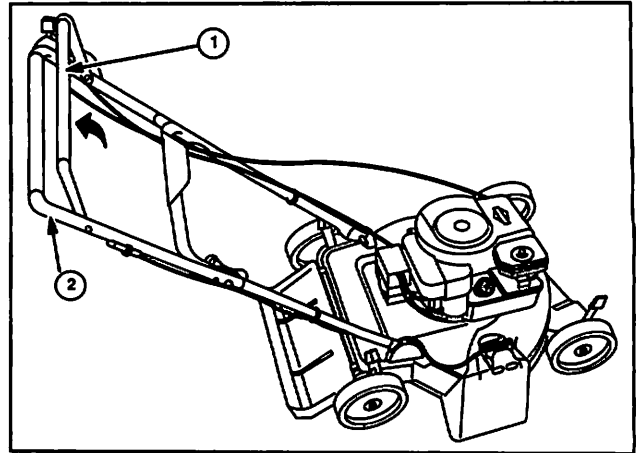
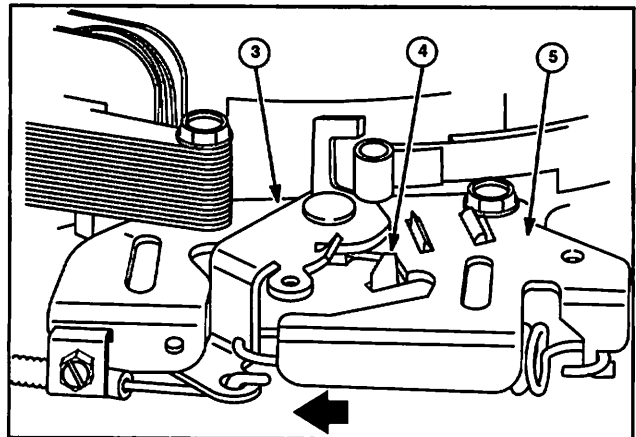

Fig. 23
Fig. 24
Move control lever away from stop switch using safety control (1) shown on handle (2) in Fig. 23, or by moving control lever (3) at engine in direction shown in Fig. 24. Stop switch (4)
3. Using Tool #19464, Digital Multimeter, set meter to ohms (Ω) and connect test leads to engine ground and other test lead to wire retainer. Move control lever to run position Fig. 24.
NOTE: On System 2® and System 4® engines operate safety control (operator presence control) to move control lever away from stop switch (4), Figs. 24, 28 and 29.